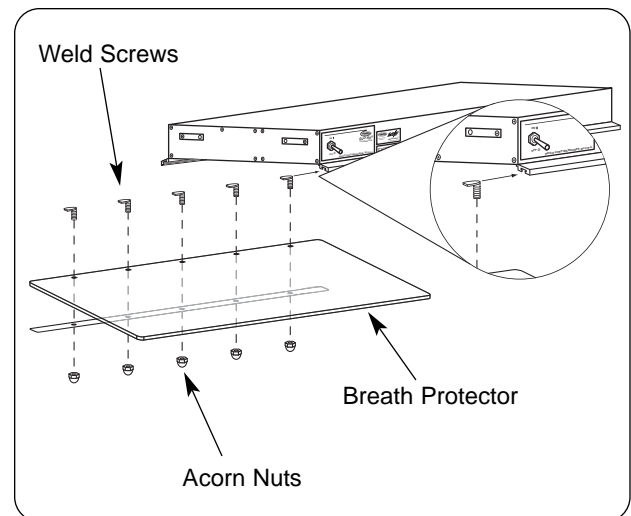

Figure 21. Installing Breath Protectors
2. Position the acrylic breath protector into the channel on the warmer with the mounting holes aligned. (See Figure 21.)